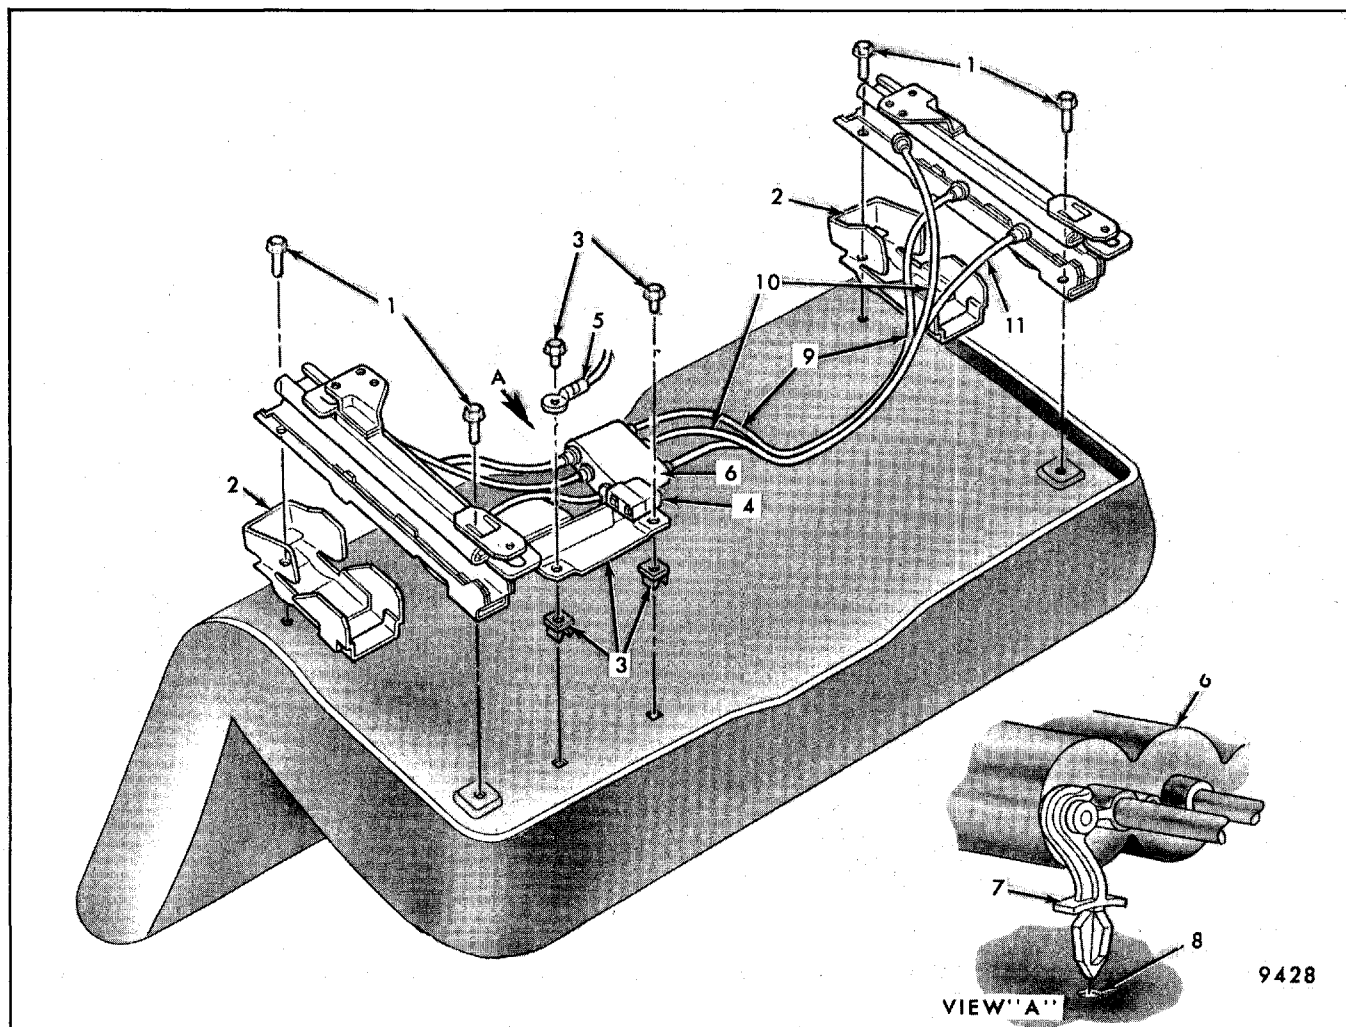

Fig. 9-20 - "B and C" Body Power Operated Six-Way Seat Adjusters - Full Width Seat
- Figure 9-20 - "B and C" Body Power Operated Six-Way Seat Adjusters